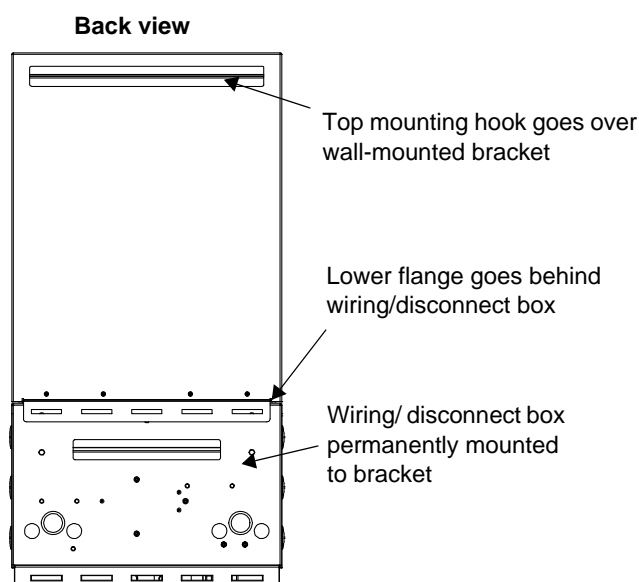

Figure 6-5 Inverter and Wiring/Disconnect Box Sections
4. Mount the inverter on the upper mounting bracket above the wiring/disconnect box, making sure the inverter’s lower flange goes behind the wiring/disconnect box. See Figure 6-5.